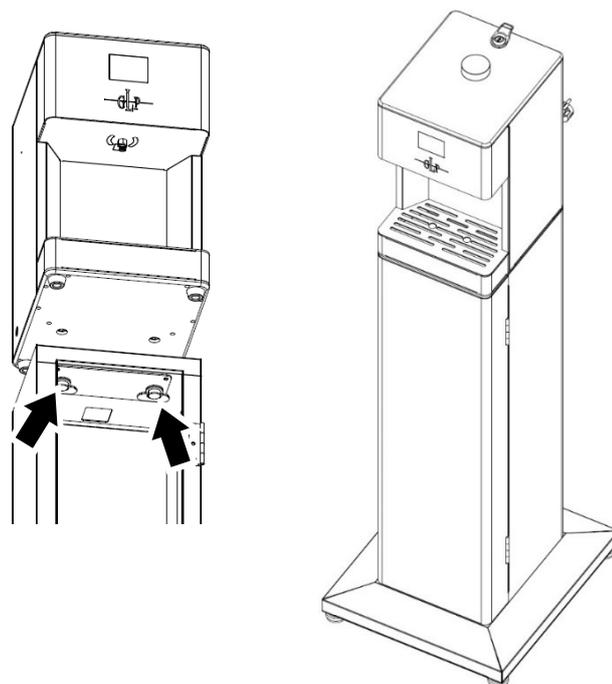

Figure 4. Sentinel on Storage Tower
3. Open the storage compartment door and note the positions of the two camlock fasteners (arrowed in Figure 4) in the top of the stand.
4. Place the Santinel onto the stand as shown in Figure 4, passing the camlock fasteners into the receptacles in the bottom of the Santinel. Turn both camlock fasteners a full 90° clockwise to lock.